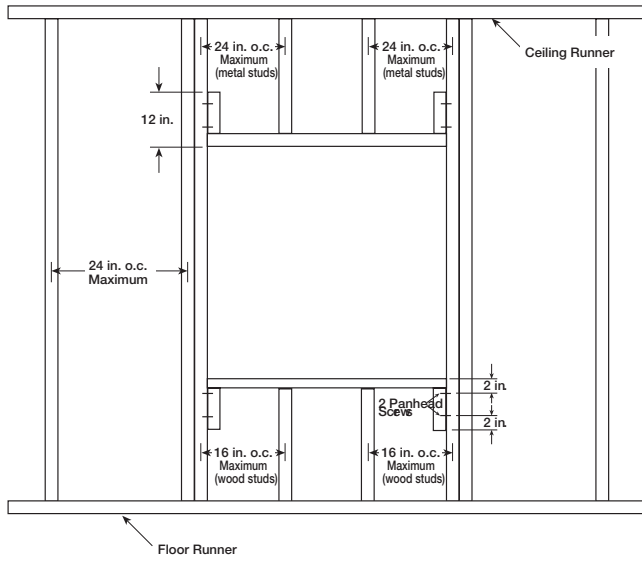

Figure 1
- Frame wall openings as shown below (see Figure 1 & 2).